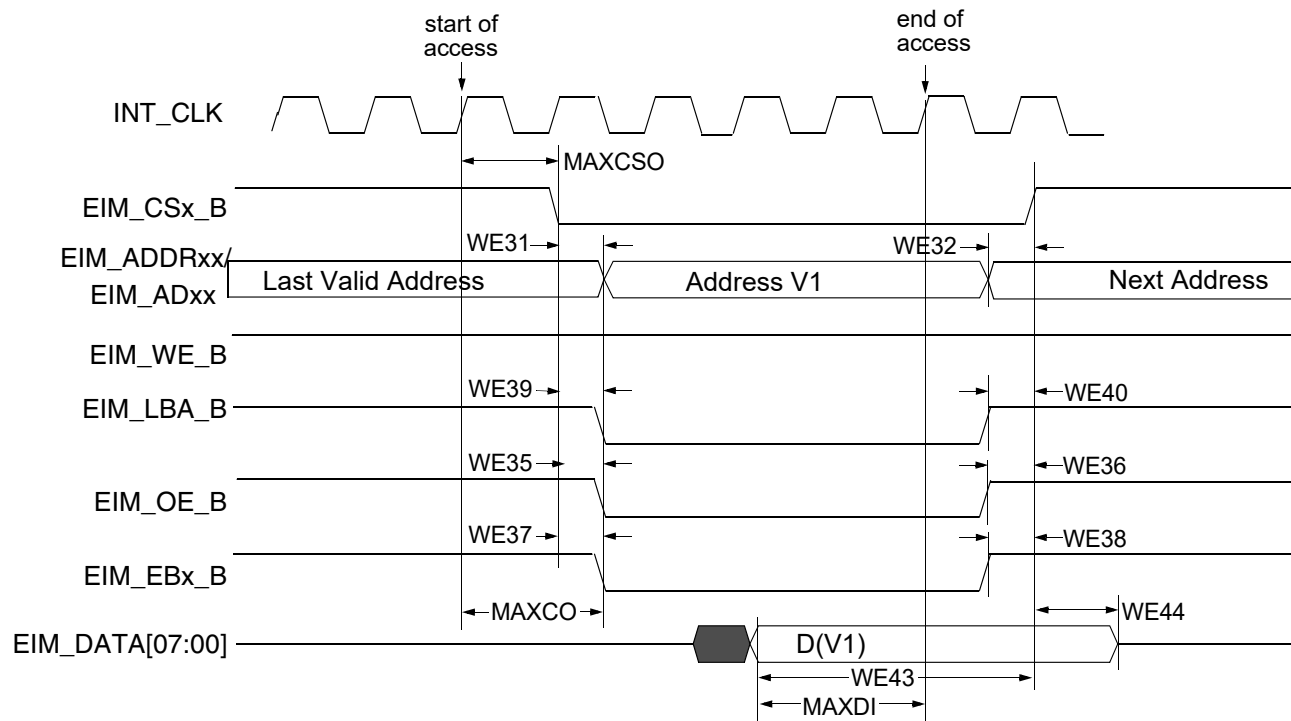
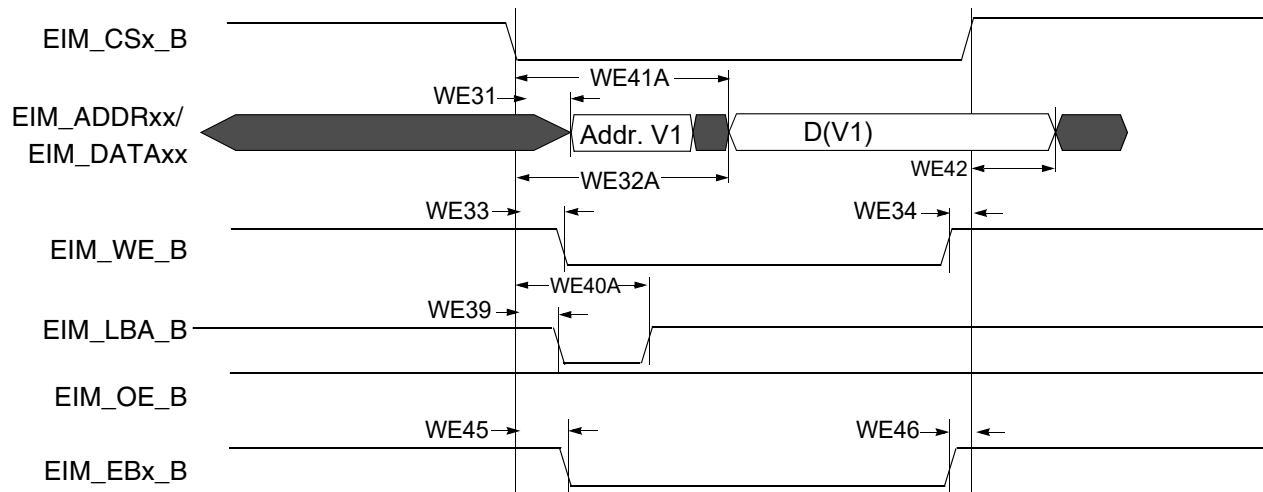
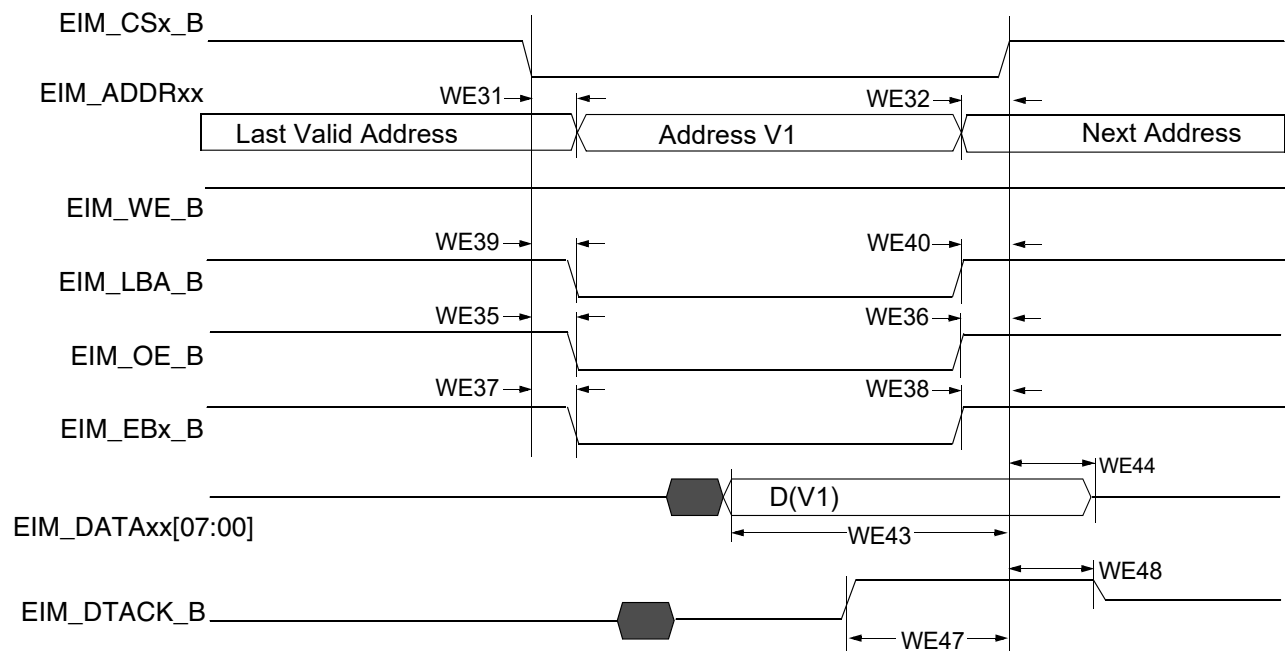

Figure 18. Asynchronous Memory Read Access (RWSC = 5)
Figure 21. Asynchronous A/D Muxed Write Access
Figure 22. DTACK Mode Read Access (DAP=0)
Figure 18 through Figure 22 and Table 42 provide timing parameters relative to the chip select (CS) state for asynchronous and DTACK EIM accesses with corresponding EIM bit fields and the timing parameters mentioned above.
Asynchronous read and write access length in cycles may vary from what is shown in Figure 18 through Figure 21 as RWSC, OEN & CSN is configured differently. See the i.MX 6Dual/6Quad reference manual (IMX6DQRM) for the EIM programming model.